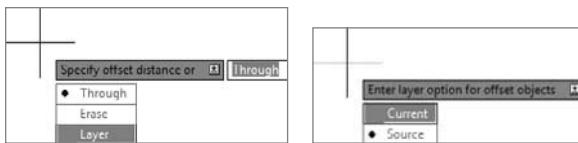

FIGURE 6.39 Choosing the Layer option (left) and the current option (right)
1. At the **Specify offset distance or** prompt, press the down arrow and select the Layer option (see the left image of Figure 6.39).
2. The second prompt reads **Enter layer option for offset objects**. Press the down arrow and select the Current option, or enter **C.** to instruct AutoCAD to create offsets on the current layer (A-ROOF) as shown in the right image of Figure 6.39.